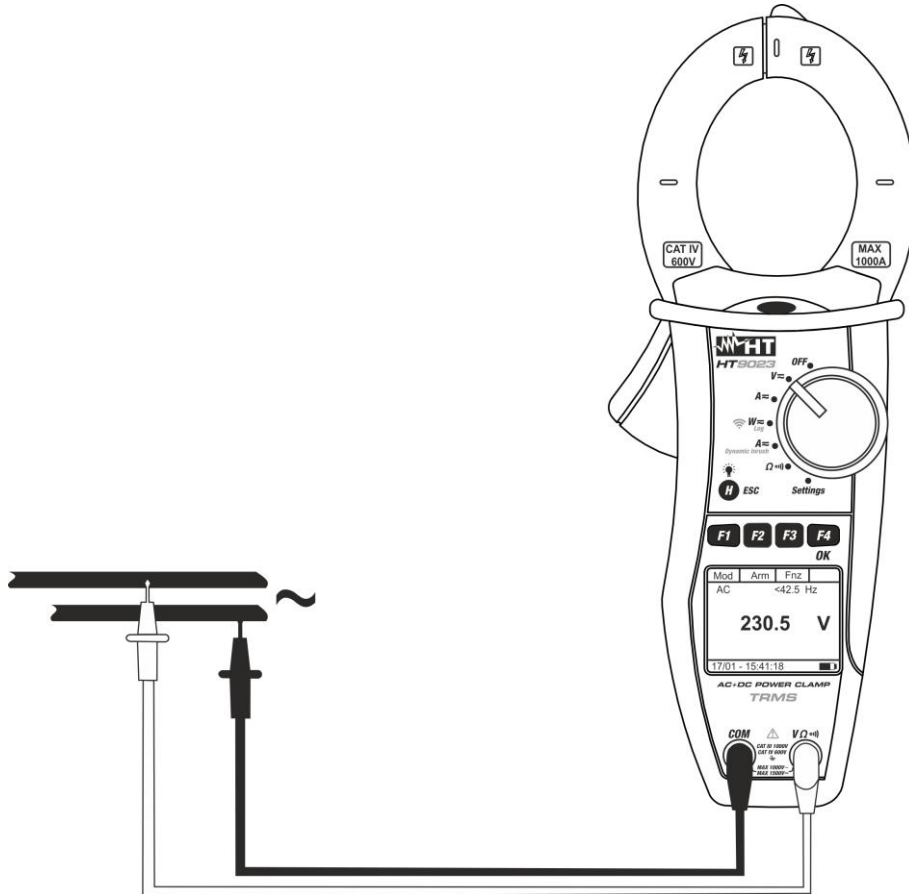

Fig. 6: AC and AC + DC voltage measurement
4. Connect red cable to input lead **VΩⓂ**) and black cable to input lead **COM** then position the leads to the desired points of the circuit under test (see Fig. 6)